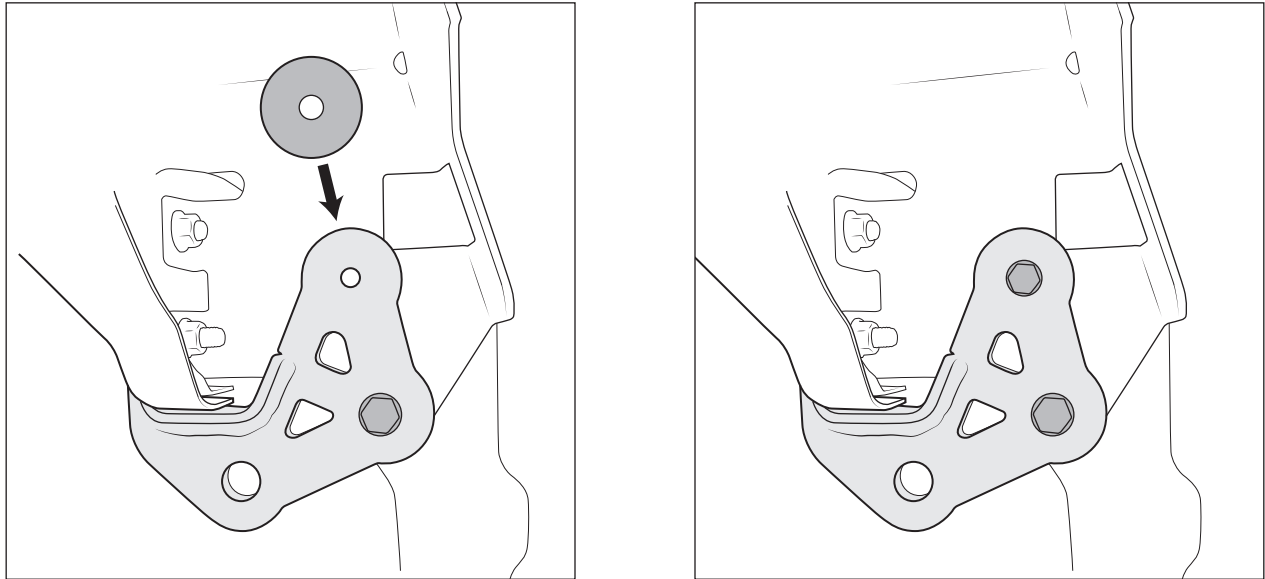

Figure 31
1. Remove factory outboard M10 bolts used to hold AEV bumper brackets in place during previous steps. Locate the two black M10x45mm hex bolts, washers, and thick spacers. Rotate the tow loops up into fully installed position, begin feeding the M10 bolt and washer through from the outside, and sandwich the spacer between the tow loop and bumper reinforcement bracket. Loosely thread the bolt into the factory weld nut in the frame (fig. 31).